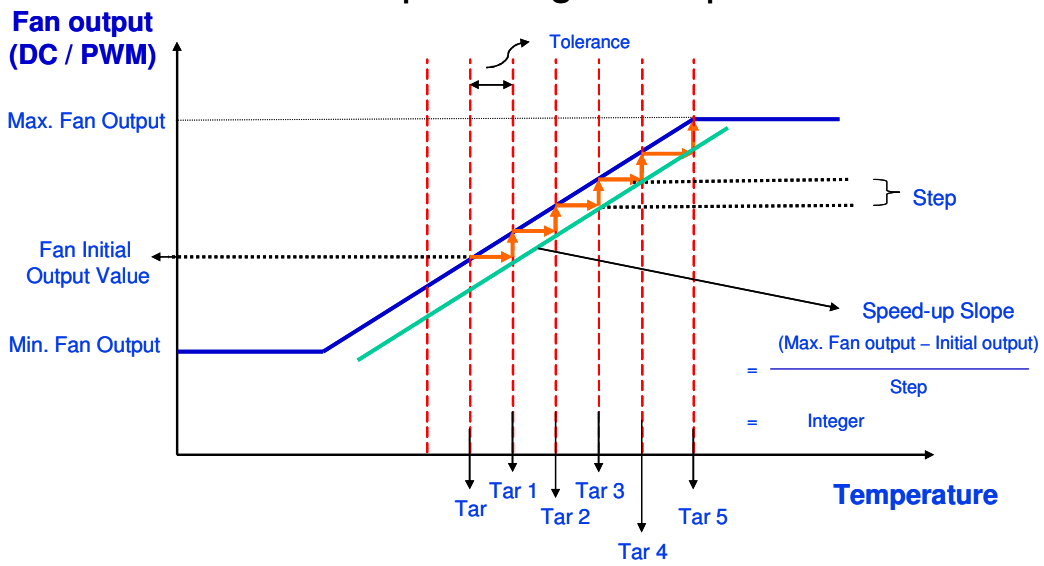

Figure 7.10
- (2) In the case that currently measured temperature goes beyond (Target Temperature + Temperature Tolerance), which is shown in Figure 7.10, fan speed jumps up to the next step. “Step” here refers to the value in the CPUFANOUT Output Value Select Register, Bank0 Index03h or Index61h.
- (3) Meanwhile, original Target Temperature dynamically shifts to (Target Temperature + Temperature Tolerance), and new Target Temperature, named Target Temperature 1, is formed. In other words, Target Temperature 1 equals original Target Temperature plus Temperature Tolerance.
- (4) If the currently measured temperature is within the (Target Temperature 1 \pm Temperature Tolerance) then, the fan speed remains constant. Otherwise, fan speed jumps up to the next step again. Target Temperature then dynamically shifts to (Target Temperature 1 + Temperature Tolerance), and new Target Temperature again, named Target Temperature 2, is formed.
- (5) The fan-speed-up and Target Temperature comparison-then-shift process continue until currently
- (6) Please be noted that “Speed-up Slope” shown in the Figure 7.10 must be an integer. In other words,